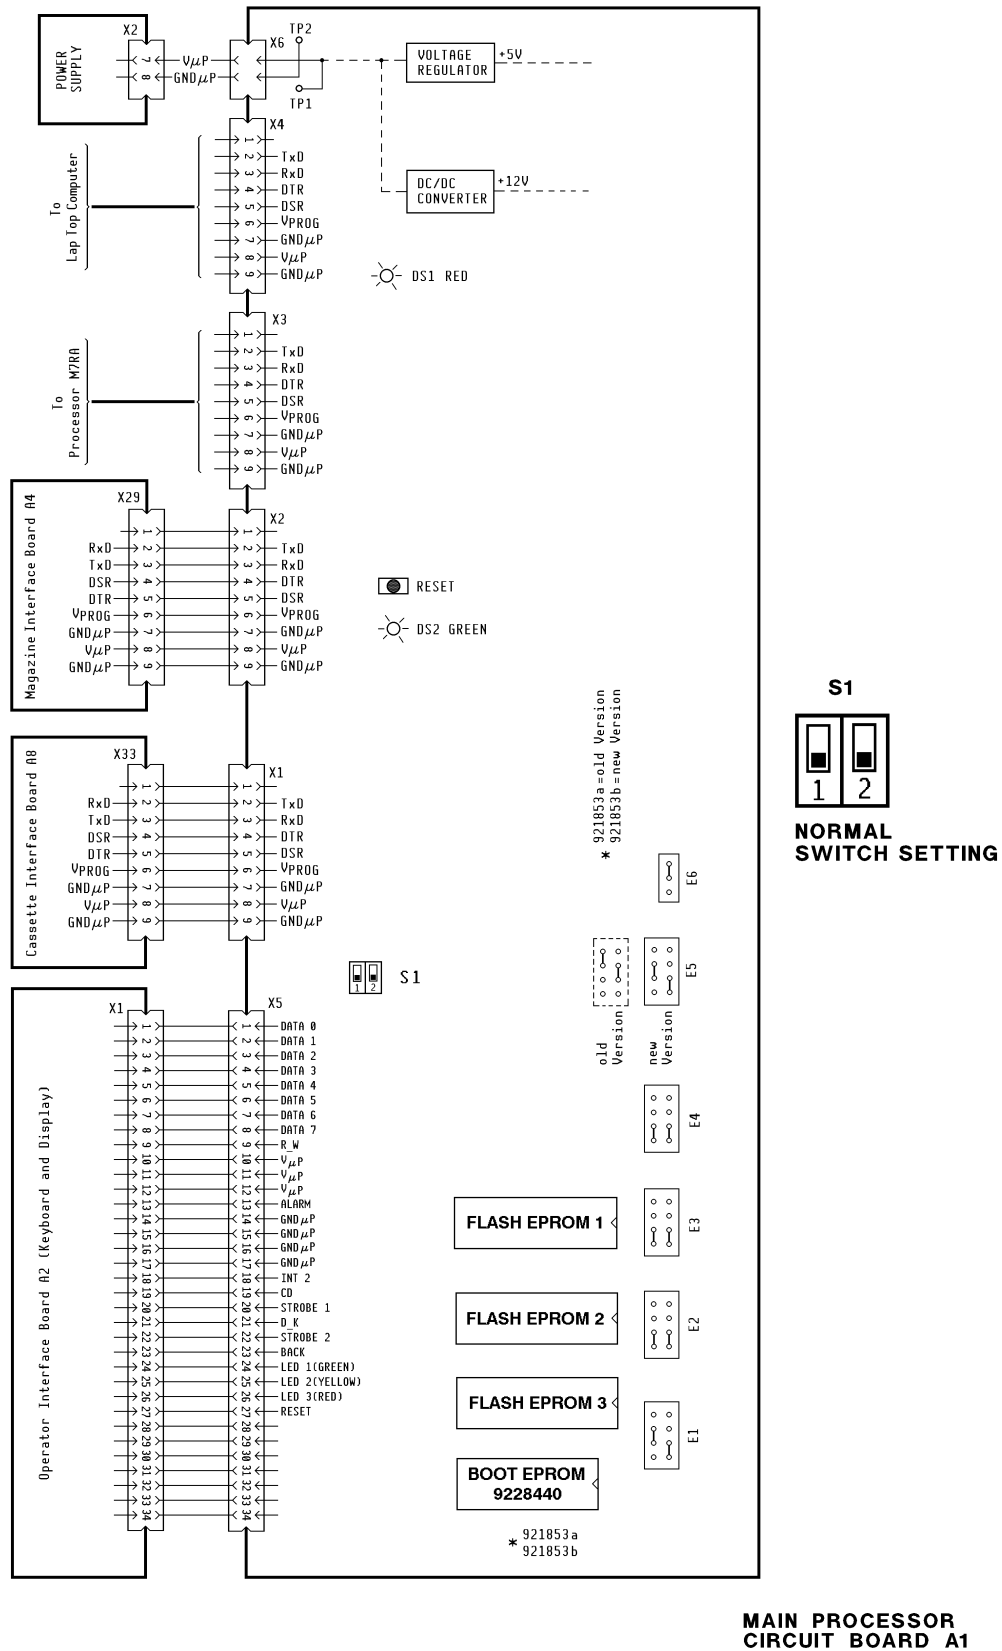

figure 1
See figure 1.
10. Check that the JUMPERS E1 to E6 are set as shown in figure 1.
For the position of S1 see figure 1